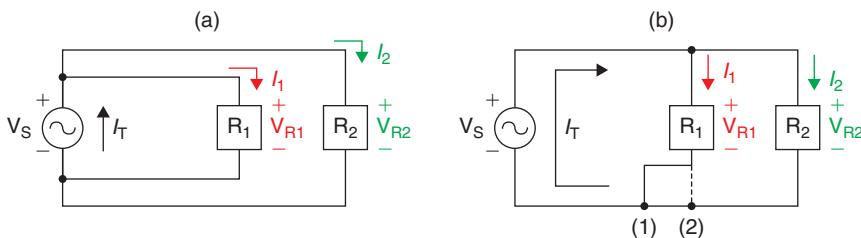
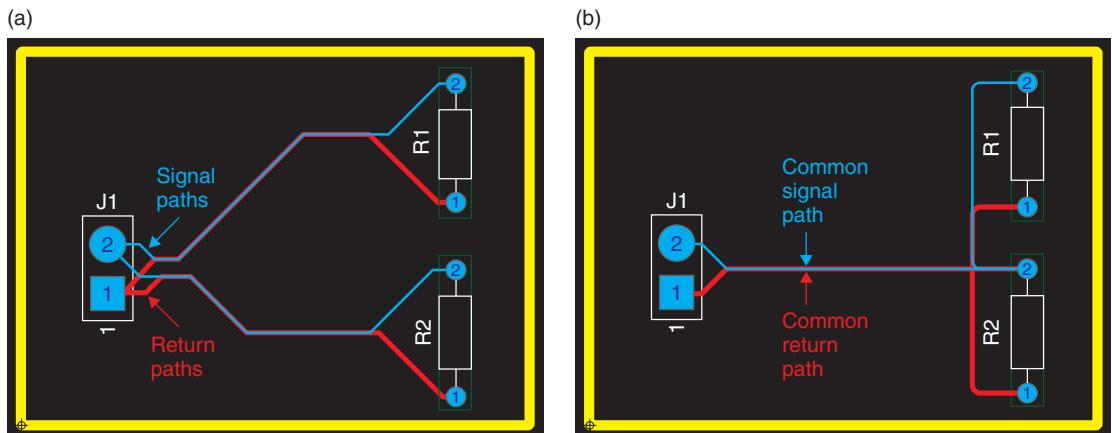

Figure 6-9 Typical signal and return connection schemes. (a) Parallel connected.
Figure 6-11. Signal and return connection schemes in Layout. (a) Parallel (separate) connected. (b) Series (common) connected.
There are two basic ground and power connection schemes, parallel and series connections, as shown in Fig. 6-9. A parallel ground system is shown in Fig. 6-9(a). A parallel ground system is also called a separate ground system, since the current flow in each branch is supplied by and returns to the source through completely separate paths. A series connected ground system is shown in Fig. 6-9(b). The series connected ground system is also referred to as a common ground system or daisy chain, since the current flows in the two branches share a common path.
At the schematic level the circuits in Fig. 6-9 are identical; mathematically the circuits are also identical, that is,  $I_T = I_1 + I_2$  and  $V_{R1} = V_{R2} = V_S$ . Furthermore, as indicated in Fig. 6-9(b), you could connect  $R_1$  to the common return path at either point (1) or point (2) without changing the meaning of the circuit description in any way. However, on the PCB, the two circuits shown in Fig. 6-9 can be significantly different. There may even be significant differences between points (1) and (2) in Fig. 6-9(b).
Clearly then, it would seem that the best return system is the parallel system shown in Fig. 6-9(a). However, a potential problem rises when we try to implement this approach on the PCB. Figure 6-11 shows the routing scenarios in which Fig. 6-11(a) is the parallel connection and Fig. 6-11(b) is the series connection. As described above and shown in Fig. 6-11(a) the current paths do not interfere with each other in the parallel connection since their paths are completely separate, and since each signal path is directly above its return path, there is tight
The series connection in Fig. 6-11(b) is obviously much easier to route, but it loses the benefit of the separate signal and return paths. Even with the signal and return paths tightly coupled, the common paths (impedances) could be problematic for circuits operating at high frequency or with fast rise times.